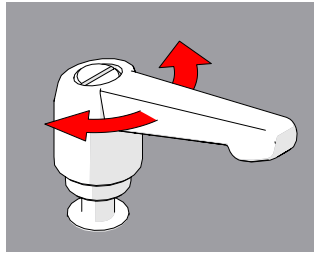

Fig. 219 - Rotate handle
2. Continue to pull while rotating the lever in the appropriate direction (*Fig. 219*).